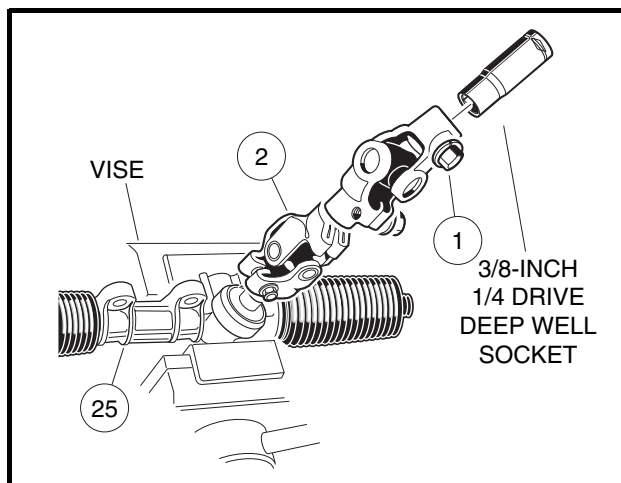

Figure 7-15 Rack and Pinion Resistance
- 11.2. Insert a 3/8-inch deep well socket into the steering column end of the universal joint (2) and tighten the bolt (1) to 15 ft-lb (20.3 N·m) (**Figure 7-15, Page 7-12**).